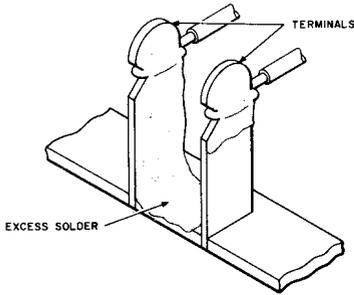

FIGURE 7. Excessive Solder on Vertical Terminals
- 7.04 Improper soldering technique on vertical terminals may result in a cross or short circuit between adjacent terminals as shown in Figures 7 and 8.